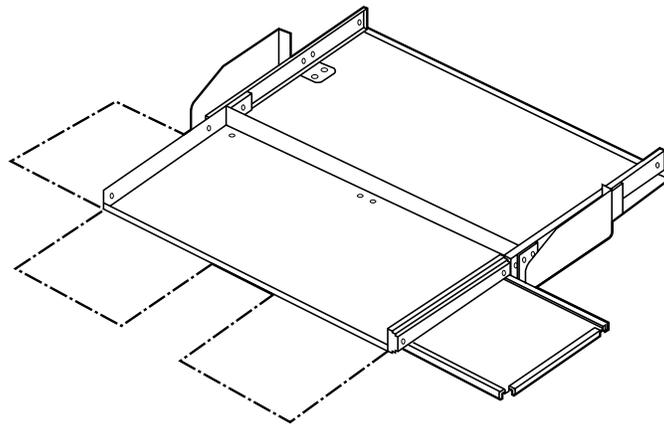

Figure 3-7. The keyboard shelf with mouse tray.
5. There are four mounting options for the keyboard shelf's mouse tray. The tray will be positioned on the right when you receive the keyboard shelf, as shown in Figure 3-7. If you'd like to move it to one of the other positions, unscrew the tray. Reposition it and insert the screws you just removed in the pre-drilled holes. Tighten the screws until the tray is securely in place. The mouse tray slides underneath the the keyboard shelf when not in use. Make sure to push the tray into this storage position before closing the shelf.